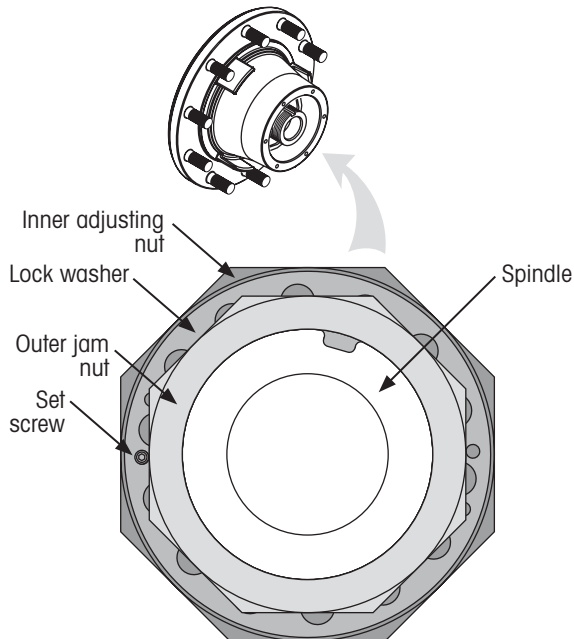
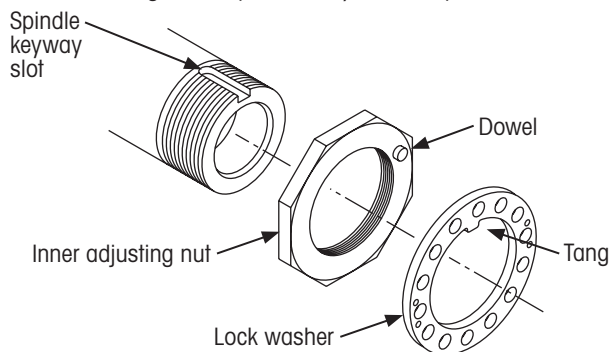
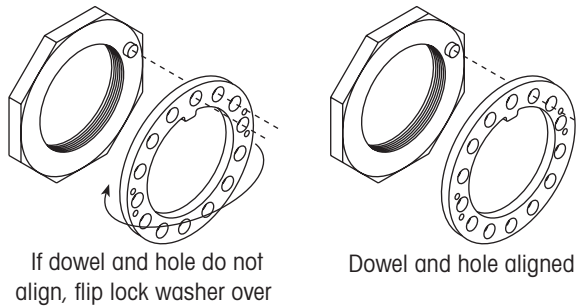

Figure 8: 3-piece nut system components
Figure 9: Adjusting nut and lock washer installation
Figure 10: Align adjusting nut dowel with hole in lock washer
5. Using a  $\frac{5}{64}$  inch hex key, **remove** set screw from lock washer (Figure 2 on page 7 and Figure 8 on page 12).
The HVS™ hub system typically uses a 3-piece spindle nut system (Figure 8).
1. **Install** inner adjusting nut (Figure 9) on spindle, dowel side out, and tighten to 200 ft. lbs. (271 N•m) of **torque while rotating** wheel.
6. **Install** lock washer (Figure 9). Make sure lock washer tang fits in the spindle keyway slot and inner adjusting nut dowel fits in one of the holes in the lock washer. If this alignment cannot be achieved, remove the lock washer, flip it over and reinstall it on spindle (Figure 10).
11. **Install** set screw (Figure 2 on page 7) into an accessible threaded hole in lock washer (Figure 8). Set screw must contact inner adjusting nut. Tighten to 16-20 in. lbs. (1.8-2.2 N•m) of torque.
1. **Make sure** lock washer is properly positioned and flush with inner adjusting nut at dowel pin (Figure 8 and Figure 10).